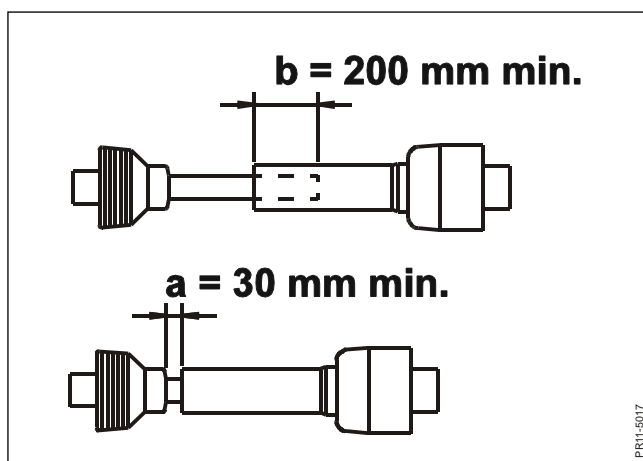

Fig. 2-12
- Fig. 2-12** E The PTO shaft 7 is adjusted in length and mounted.
- Fig. 2-12** The length of the PTO shaft is adjusted so that it: in working position has minimum 200 mm overlap. In no position is compressed more than the prescribed 30 mm in order not to bottom the shaft. In the outmost position has minimum 200 mm overlap.